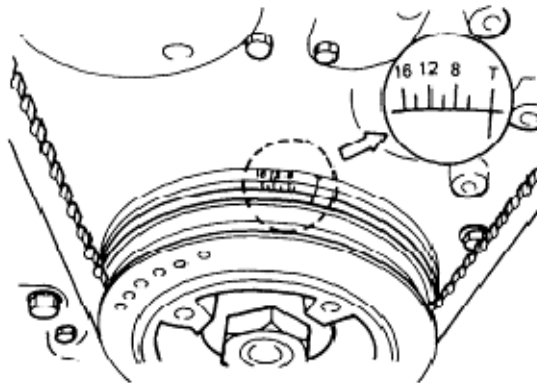

Figure 30 Timing Mark Alignment
- n. Rotate the crankshaft by hand in a clockwise direction to align the crankshaft pulley and the TDC mark on the timing cover (Figure 30).
- h. Rotate the crankshaft by hand in the direction of rotation, until the TDC mark on the crankshaft pulley aligns with the timing mark on the timing case. The advance line should now be in line with the pointer (Figure 30).